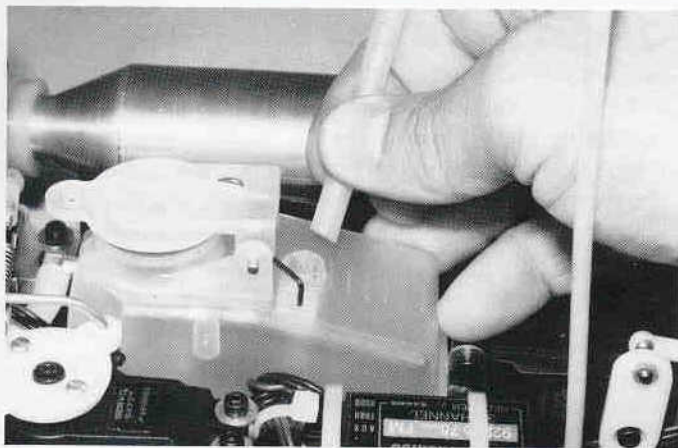
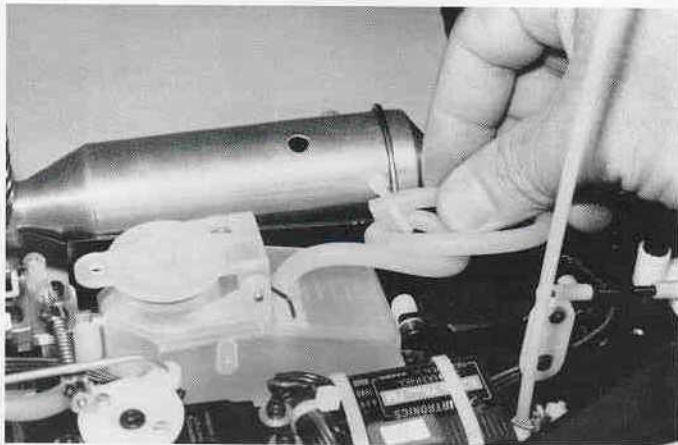
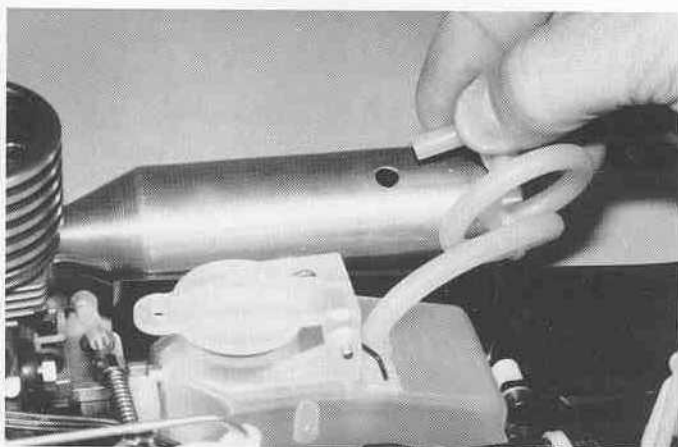

Fig. 286
Fig. 287
Fig. 288
□ **Figs. 286, 287 & 288** Now we need to get out the remainder of the #7724 fuel tubing for a fuel pressure line. Install the tubing into the fitting on the top of the fuel tank, fig. 286. Take one of the small wire ties from bag #7-7 of the truck kit and loop it around the muffler bracket, leaving as large a loop in it as possible. Take your fuel tubing and run it through the wire tie, then loop it around and bring it back through the same side of the wire tie again, fig. 287. Now take the end of the tubing and squeeze it into the hole in the #7730 tuned pipe muffler about 3/8" where shown in fig. 288. Now tighten up the wire tie so the tie is around the tubing, but not so tight that it will begin to compress the tubing. Cut off the end of the wire tie.
Step 11 To adjust the brake, fig. 288, make sure the #7555 brake cam arm resting in its forward position (but with no pressure on it). Also make sure the transmitter throttle position is at neutral. There should be a 1/16" gap between the cam arm and the collar. Now tighten the 2-56 locknut so that there is no play between the spring and the nut. After we have the engine running we will want to have the brake adjusting nut just tight enough so that when the truck is idling the brake will just barely keep the truck from moving. To increase the brake, you tighten the locknut against the spring more.